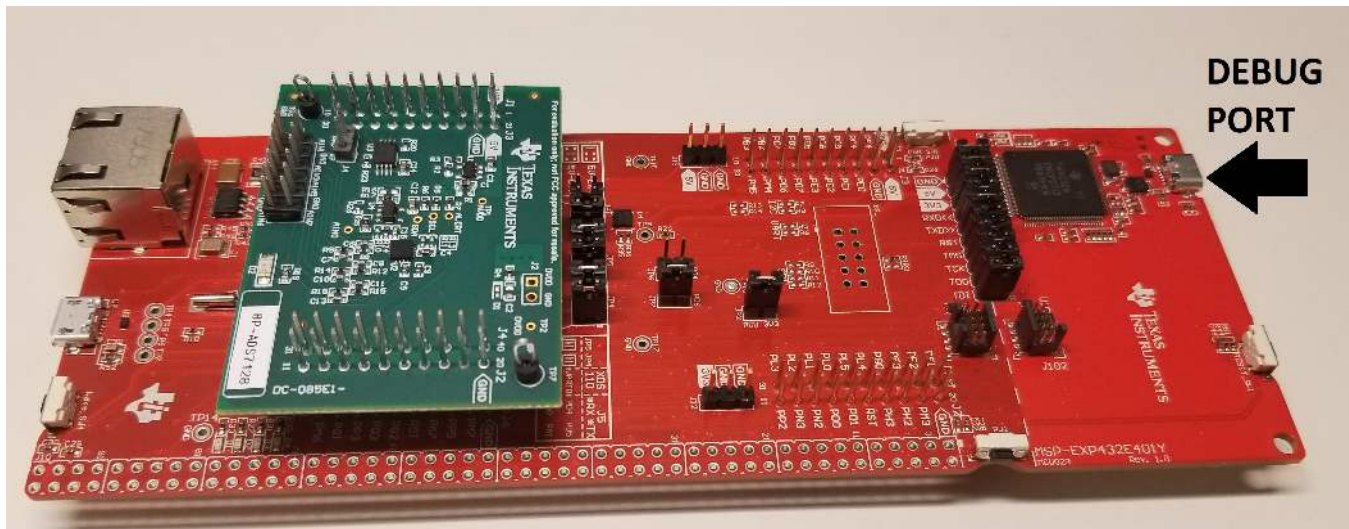

Figure 5. LaunchPad™ Debug Port
2. Connect the MSP432E401Y LaunchPad™ debug port connector, as shown in Figure 5, to an available USB port on the PC.